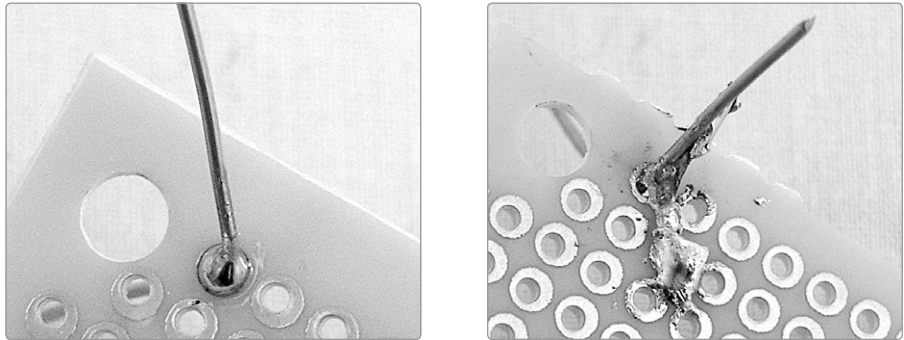

FIGURE A-21: Good (left) and absurdly bad (right) solder joints
If your soldering iron has a brand-new tip, *tin* the tip before using it: plug in the iron, and when the tip is nice and hot, melt some fresh solder onto it to coat the tip. This will prevent corrosion, which will otherwise eat away the tip pretty quickly.⁵ Then, you're ready to start! Figure A-21 shows well-soldered and badly soldered joints.
- ▶ **Bad solder points:** A good solder point is smooth and shiny; bad ones are rough, brittle, or chunky (see the right photo in Figure A-21). Redo bad joints.